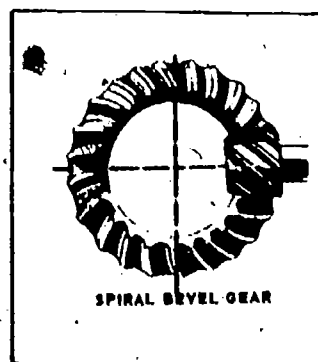

Fig 3-16. Bevel gears.
- (b) **Bevel gears** (fig 3-16). These are used to change the direction of power flow. Power enters at one place and emerges at a 90° angle. Like the helical spur gears, bevel gear teeth are cut on a curve or an angle to increase tooth contact. Bevel gears are usually provided in matched sets consisting of a pinion and bevel gear. Some bevel gears are referred to as ring gears because of their application and mounting, such as the ring gear and pinion in the differential of your automobile.